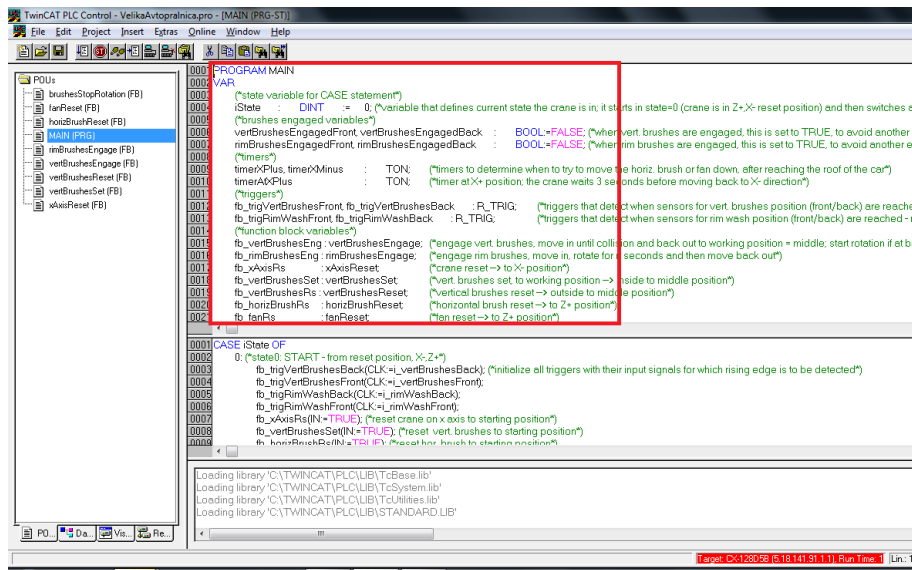

Figure 3.12: TwinCAT PLC Control - Local variables
- **local**: accessible inside a POU (program, function, function block) (see Figure 3.12)